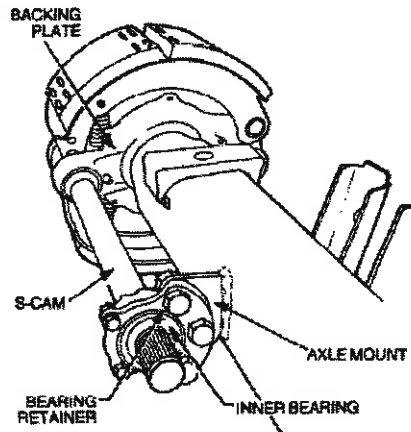

Figure 31 S-Cam Mounting
- c. Loosen the bolts and nuts securing the S-cam inner bearing and bearing retainers to the axle mounting (Figure 31).